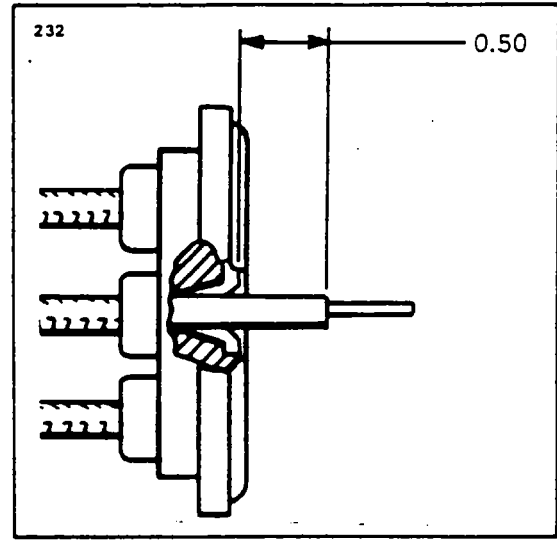

Figure 7A-25. Installing Grommet Over Lead Assemblies
14. Cut wire  $\frac{3}{8}$  inch from top of grommet outlet (See Figure 7A-25). Double wire over as shown in A of Figure 7A-27. Slide eyelet over doubled wire until it is firmly seated in recess of grommet outlet.